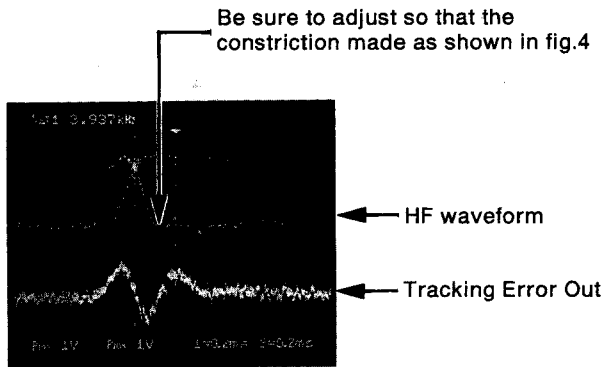

Fig.4
4. As this moment, adjust the Kick Gain VR (P106) so that Kick Gain pulse waveform is as shown in fig.4.